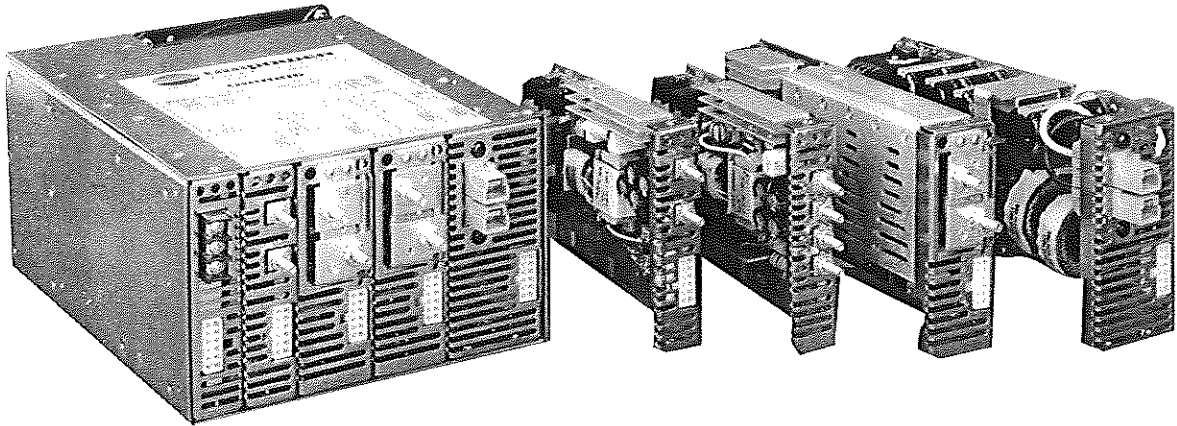

Figure 1. UNIMOD H Series Power System.
| Fig. 1 | UNIMOD H Series Power System | 2 |
- 1.2 This power system is modular and configurable, with many different DC Power Modules available in addition to a Battery-Backup Module. See Fig. 1. It allows the user to quickly obtain a power supply configured to a specific requirement. The H Series provides up to 1200 watts continuous output power and is safety agency approved by UL, CSA and TUV .